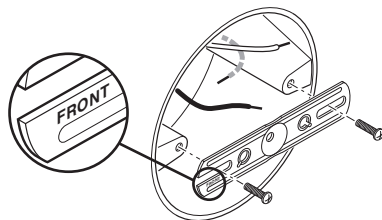

Figure 2
2. Install the mounting bracket with the stamped word “FRONT” facing away from the junction box (see Figure 2). Use the mounting bracket screws that best fit the junction box.